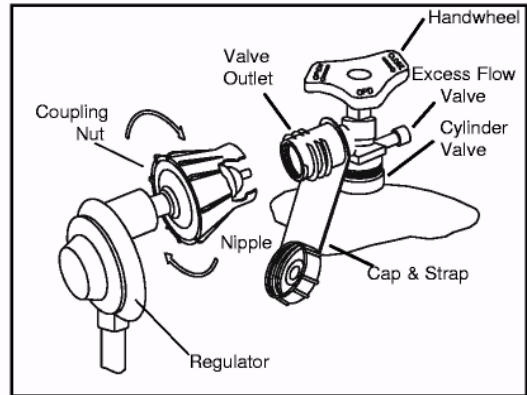

Figure 6. REGULATOR AND HOSE / COUPLING ASSEMBLY
Procedure for 20 lb Tank Connection: (See Figures 6, 7, 8)
7. With the Regulator in your hand, insert the Nipple into the Cylinder Valve. Make sure the Nipple is centered in the Cylinder Valve Outlet. Tighten the Coupling Nut by hand, making sure not to cross-thread the connection. Please note that when you connect your cylinder to the grill, you will feel the nipple seal when there is slight resistance. (See Figure 6) Turn until the Coupling Nut will turn no further (about one-half to three-quarters of a turn) to complete the connection. Tighten only by hand; do not use tools. If you cannot complete the final connection, disconnect the Coupling Nut and repeat step 7, above. If you are still unable to complete the connection, replace the appropriate parts.
(See Figure 6, Page 9)
2. For LP gas, open the Gas Cylinder Valve by turning the Handwheel counter-clockwise. (See Figure 6, Page 8)
(see Figure 6, Page 8)